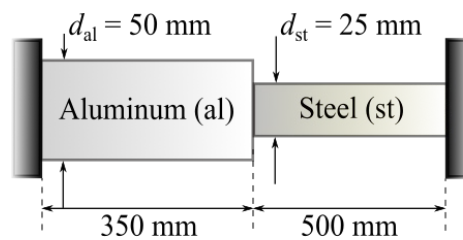

Figure 1(c) / Rajah 1(c)
- (c) A compound bar, consisting of aluminum and steel materials, is rigidly fixed in series between walls at a temperature of  $90^{\circ}\text{C}$  as illustrated in Figure 1(c). If the temperature drops to  $35^{\circ}\text{C}$ , compute: